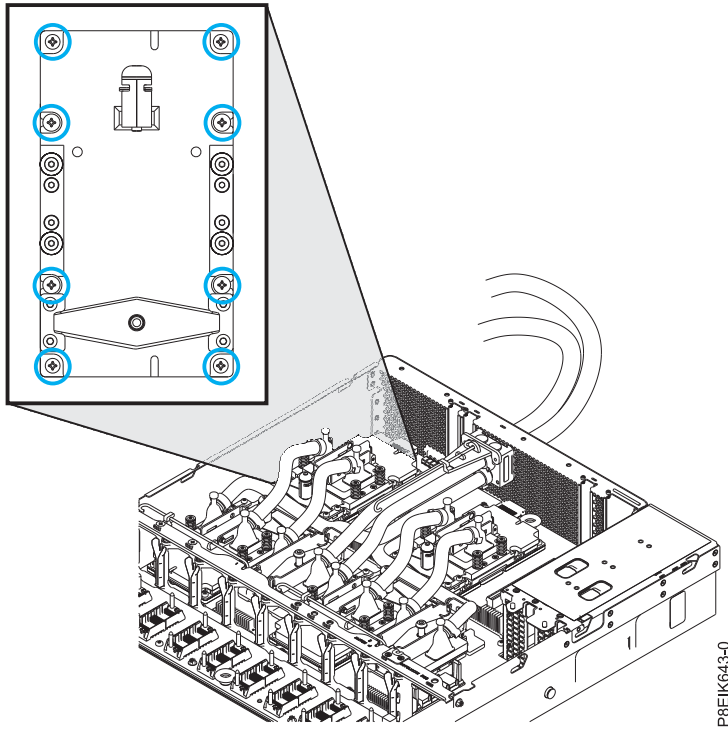

Figure 83. Replacing the GPU assembly into GPU socket
3. Secure the GPU by threading the eight screws into the system backplane as shown in Figure 83 on page 68. Use a #2 Phillips head screw driver to tighten the eight screws. Take care to not damage the system backplane with the screw driver tip.